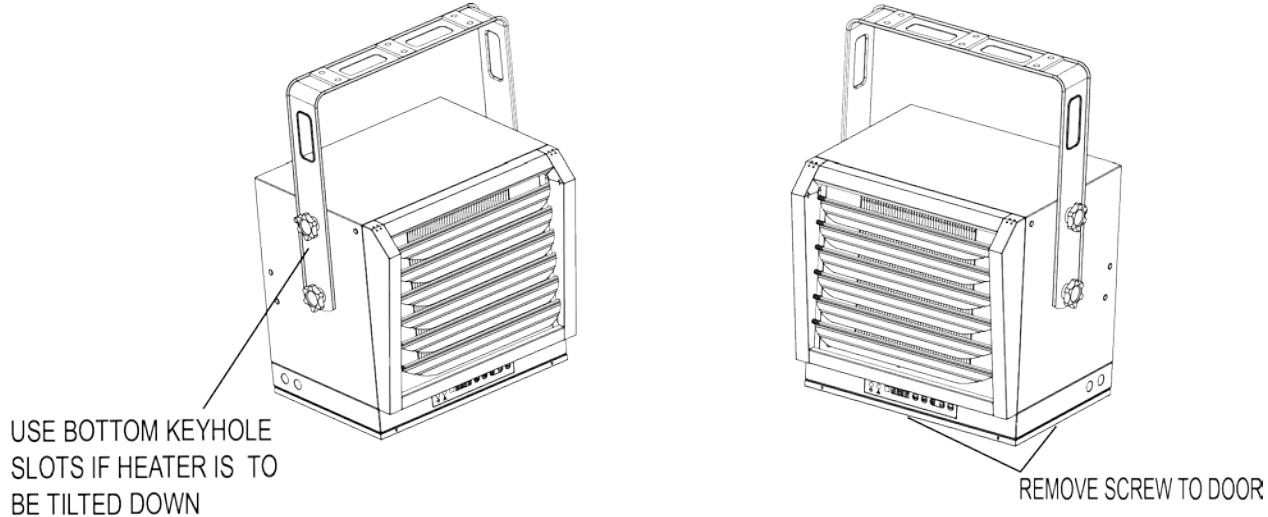
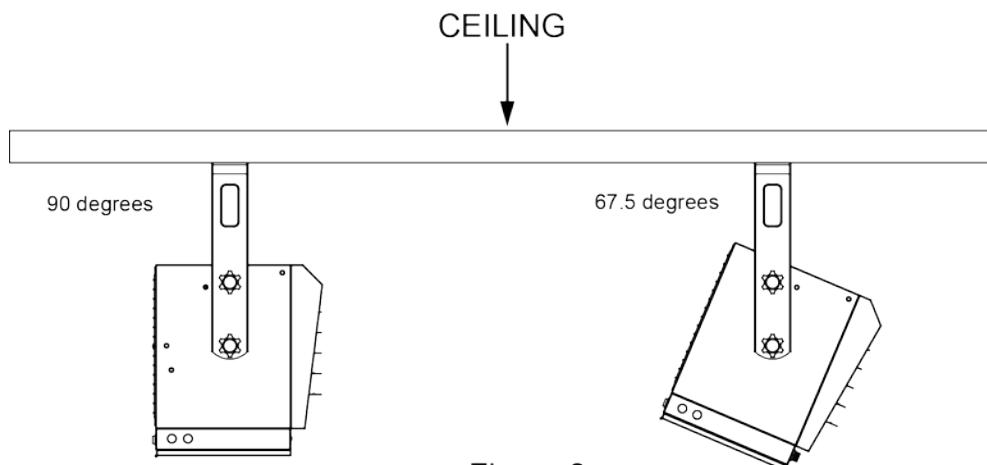

Figure 7
Figure 8
- 3) If the heater is to be tilted, it must be positioned in the keyhole slots - see figure 7.
1. To tilt the unit vertically, loosen the bracket screws (see figure 7) and see figure 8 to view multiple vertical angles.